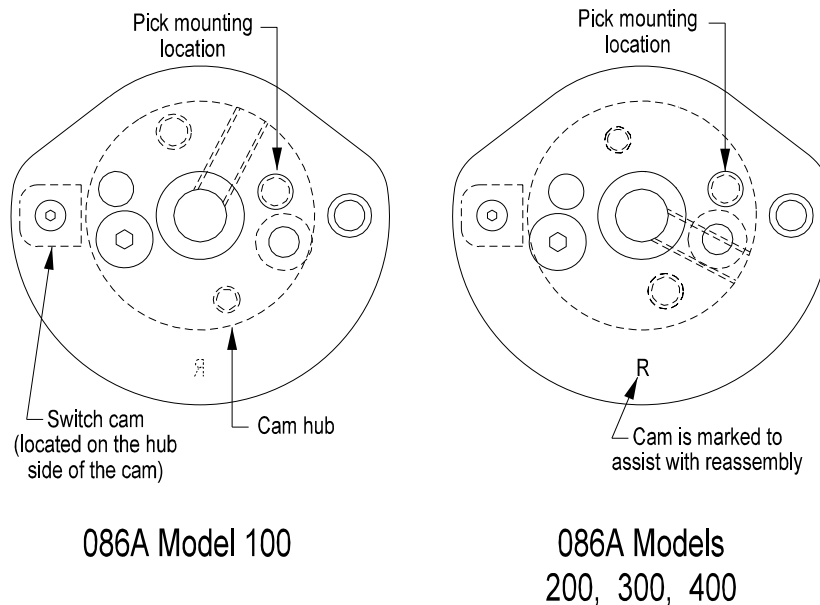

Figure 3.11
1. Hold the cam so the stamped letter "R" is on the correct side for your model closer as shown in the appropriate view in Figure 3.11